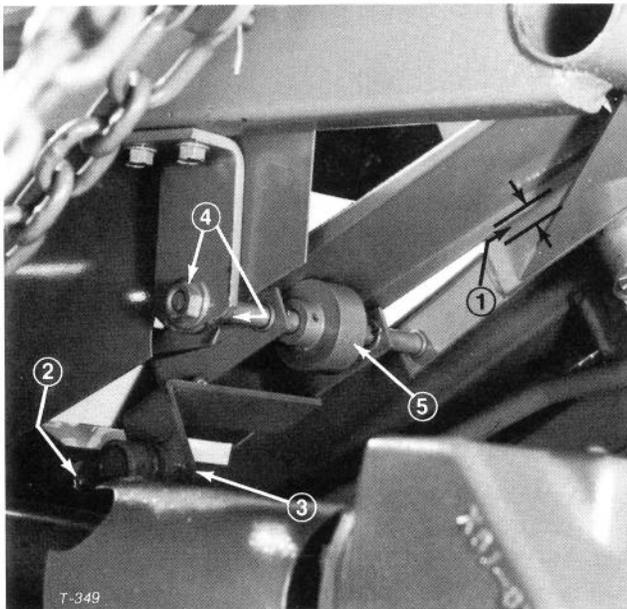

Figure 54
2. Depress traction pedal fully. There must be 1/16 inch (1.6 mm) between inside front edge of pedal and triangular support brace (Fig. 54). If distance is as specified, the control rod is adjusted correctly. If distance is not as specified, proceed to step 3 for an adjustment.
3. Loosen jam nut away from front of control rod (Fig. 54). Remove cotter pin and slotted nut retaining tapered socket in pivot mount on bottom of traction pedal (Fig. 54).
1. Loosen two nuts securing traction pedal shaft on right side of pedal (Fig. 54).